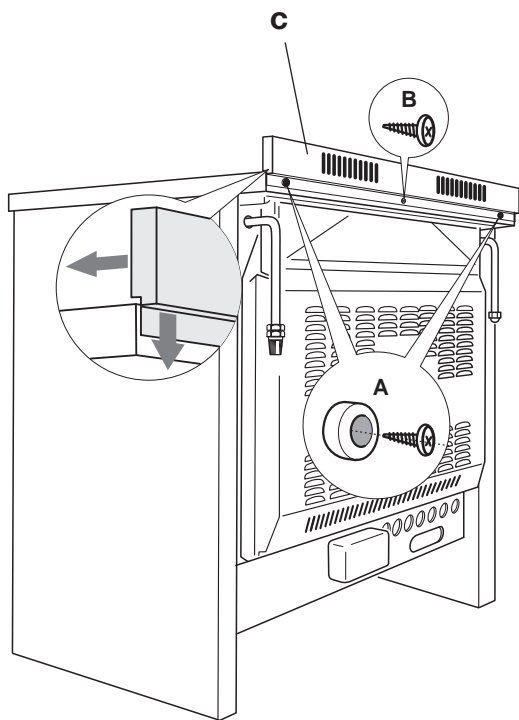

Fig. 8.3
Before installing the cooker, assemble the backguard "C" (fig. 8.3).
- Assemble the backguard as shown in figure 8.3 and fix it by screwing the central screw "B" and the spacers "A".